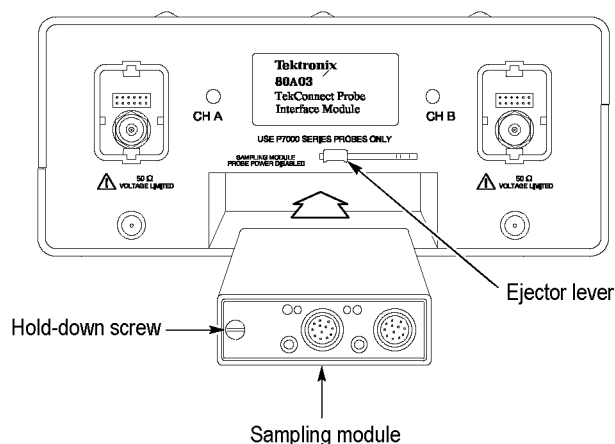

Figure 4: Installing the sampling module into the TekConnect Probe Interface Module
2. Insert the sampling module into the front-panel compartment of the TekConnect Probe Interface Module. (See Figure 4.)
4. Once the module is seated, turn the hold-down screw to tighten the sampling module in place. (See Figure 4.)